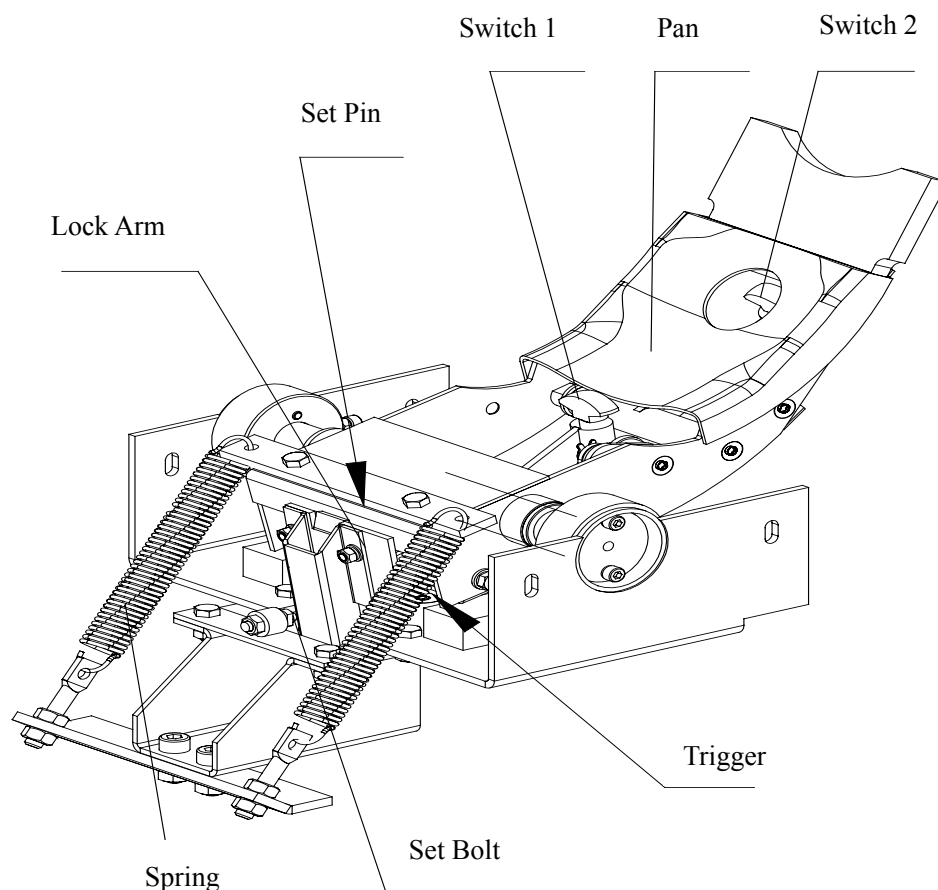

Fig. 3
3. Adjustment of Ball-holding Baffle Plate Components (See fig.3)